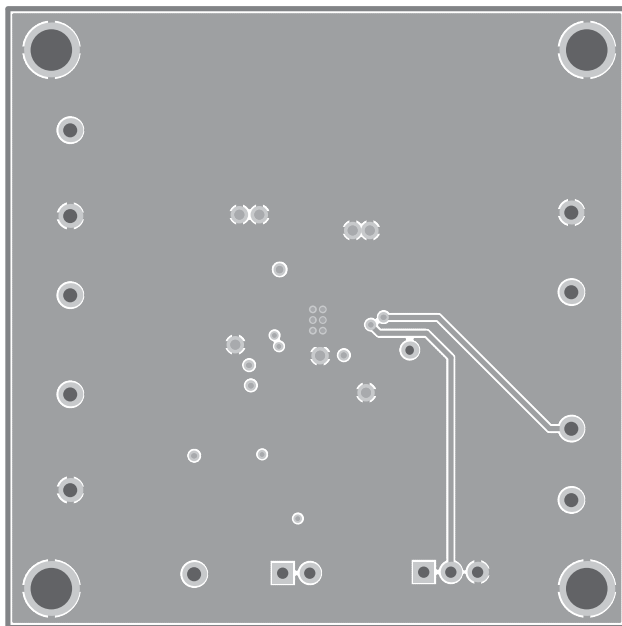

Figure 7: AAT3698-1/-2 Evaluation Board Mid2 Layer Layout.
1.6A Linear Li-Ion Battery Charger in a 3x3 TDFN Package**Figure 7: AAT3698-1/-2 Evaluation Board Schematic.**